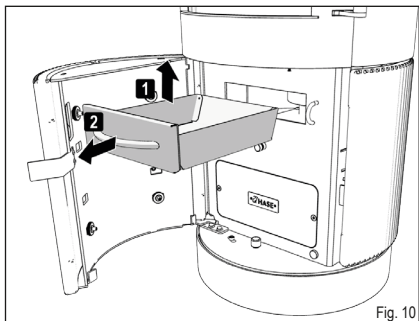

Fig. 10
- ▶ Pull the ash drawer out of the opening by the handle (Fig. 10).